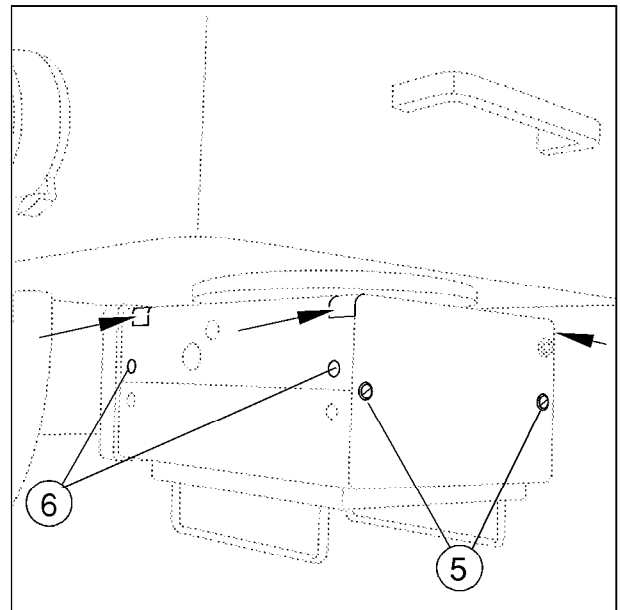

Fig. 5
- Remove the two screws (5/ Fig.5) and remove the back panel.
- Remove two screws on each side (6/ Fig.5) of the upper cover.